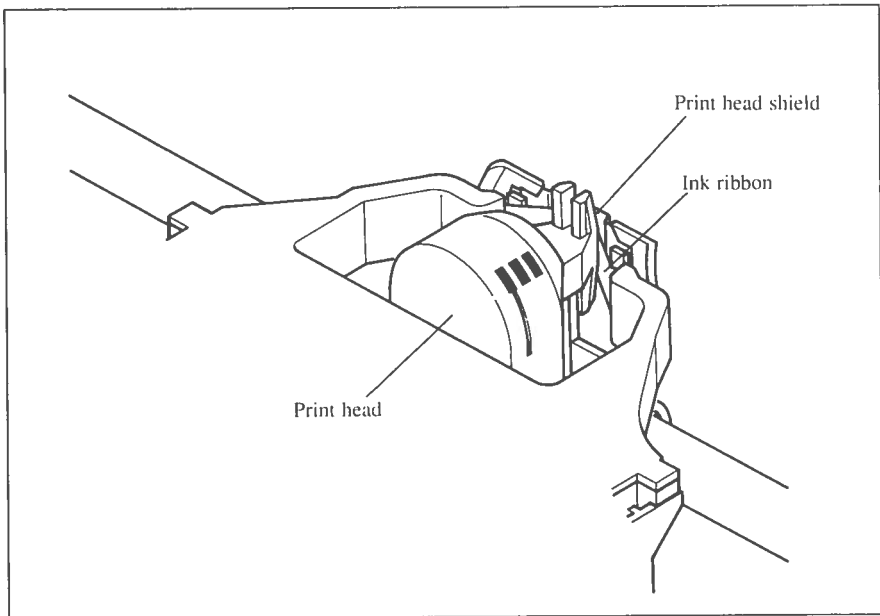

Figure 1-6. Pass the ribbon between the print head and print head shield
3. The ribbon should pass between the print head and the print head shield (see Figure 1-6).